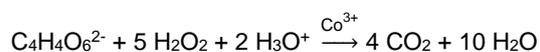

Fig. 1: Experimental set-up.
1. The apparatus is set up as can be seen in Fig. 1.